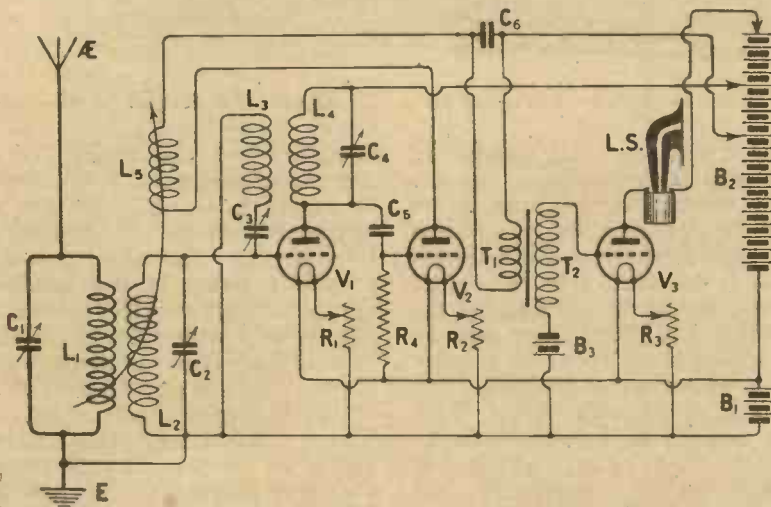
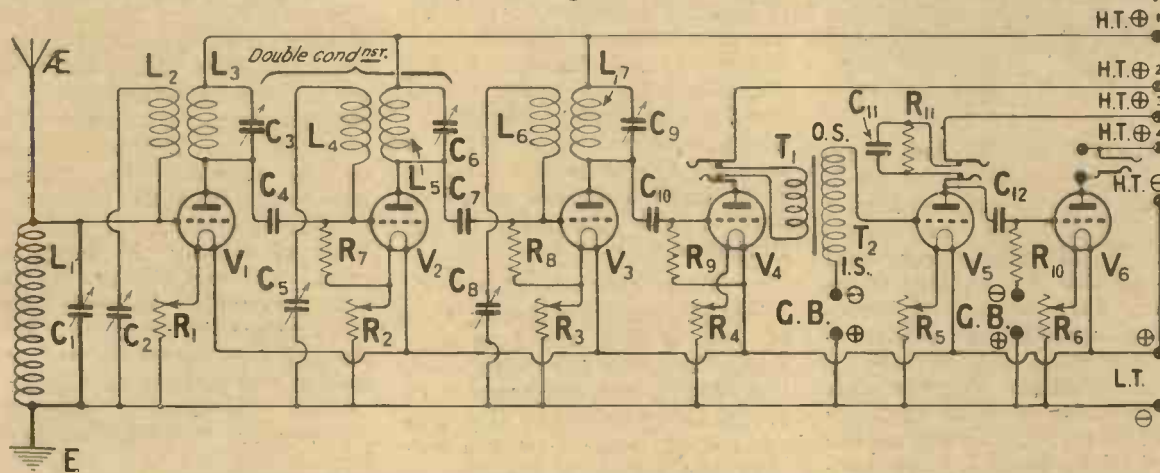

Fig. 3.—An excellent 3-valve general purpose circuit, using neutrodyne stabilisation.
Fig. 4.—The theoretical circuit of the "Anglo-American Six," which employs three neutrodyne stages.
deal with practical circuits and pitfalls therein. Fig. 3 shows an excellent all-round three-valve circuit consisting of a high-frequency valve, a detector and a stage of low-frequency. A coupled circuit is shown, so that the full advantage of the sensi-
With more complex sets, such as, for example, the Anglo-American Six, described by Mr. Percy W. Harris in *The Wireless Constructor*, Vol. 1, Nos. 3 and 4, and shown theoretically in Fig. 4, no rule-of-thumb method can be given. The set is best stabilised on an outside aerial during non-broadcasting hours or on a frame or a coil suitable for a secondary circuit during this time. All of the neutrodyne condensers should be set at a
where only one high-frequency stage is incorporated in the set, and taking, for example, a set with a circuit of the type shown in Fig. 3, the procedure to follow is to first remove aerial, earth, the aerial coil L₁, and the reaction L₅, which latter must be short-circuited by either a piece of wire across appropriate terminals, or a shorting plug. With L₃ and L₄ of suitable value to cover the desired wavelength range, and the secondary coil L₂ of a size to cover the same range with its tuning condenser C₂, set the anode condenser C₄ at some intermediate value—say 30 deg.; swing the secondary condenser gradually through the whole of its scale whilst tapping the grid of V₁. Oscillation will announce itself by loud ploncks over a number of degrees of the secondary condenser C₂, say
coil, as in Fig. 3, or by slightly upsetting the neutrodyne settings in Fig. 4. Where the former method is used a very much smaller reaction coil is usual than used with an ordinary circuit, and reaction control is delightfully smooth. This coil will often be of the order of a No. 25 or even smaller.
H.F. stages, to badly-matched neutrodyne units, partially-made joints or bad contacts in the bearings of neutrodyne condensers. This latter trouble may be cured by flex safety leads, doing away with rubbing contacts. Where the set does not function quite rightly, and the neutrodyne settings seem to require changing from night to night, the trouble may often be traced to poor joints, one case brought to my notice being a dry joint to a coupling condenser (C4 in Fig. 4), between the first two H.F. valves. Double condensers with the two sets of vanes too close together are also occasionally responsible for instability.